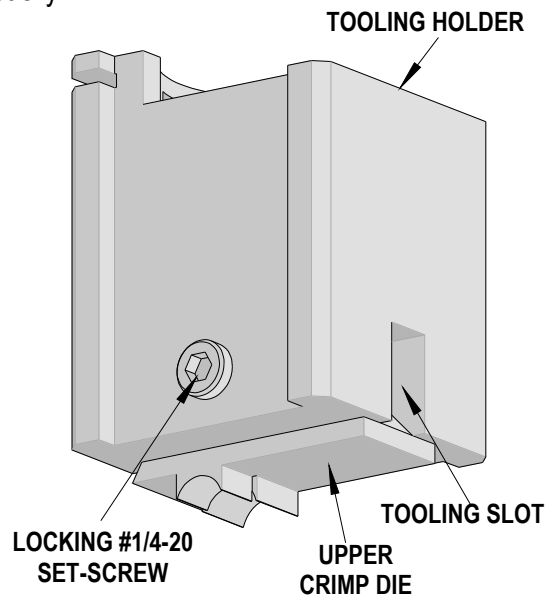

Figure 2-1
2. Install the upper crimp die into the tooling holder. The crimping area of the crimp die should be facing the back of the press when installed. See Figure 2-1.